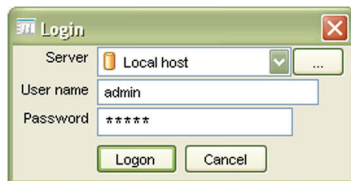

Fig. 7: The **Login** dialog box.
2. In the **Login** dialog box (Fig. 7), enter *admin* for the **User name**, and *admin* for the **Password**. Leave the **Server** set to *Local host*.